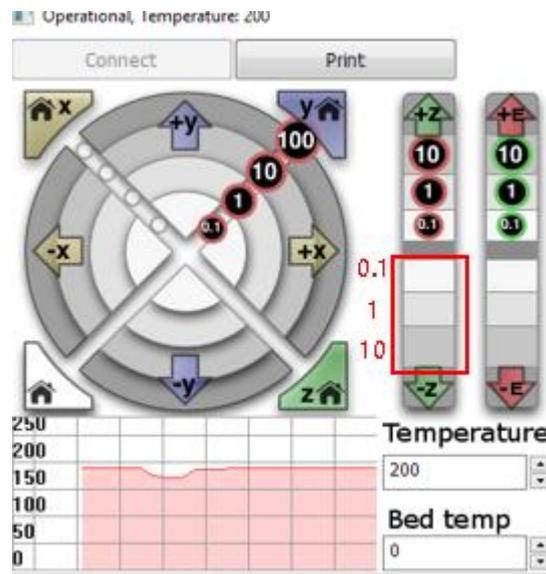

Figure 6.28 Move Z-axis
1. Click **-Z** or Click **10, 1, 0.1** to move Dobot M1 to the position where the distance from nozzle to the printing platform is about 0.3mm, as shown in Figure 6.28.